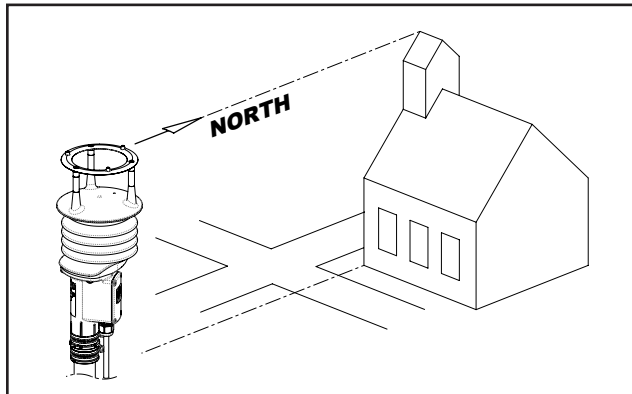

Fig 4.2.2 Sighting of Wind Sensor using Geographic Feature
- 4 Slide the orientation ring up so its guide pin is fully engaged in the sensor mounting post notch (Fig 4.2.2). Tighten the orientation ring band clamp to secure its position. **DO NOT OVER- TIGHTEN.**